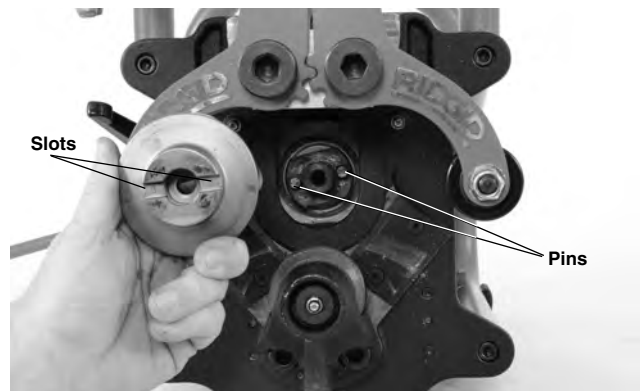

Figure 25B – Replacing Cutter Heads
- When replacing the cutter head, make sure it sits squarely on the spindle, with the slots in the cutter head engaging the drive pins (*Figure 25B*). Securely tighten socket head cap screw using the hex wrench and spanner wrench supplied.